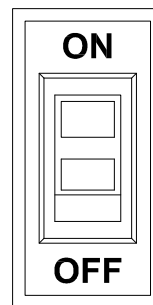

Figure 1
4. Turn power switch "ON" (Figure 1).